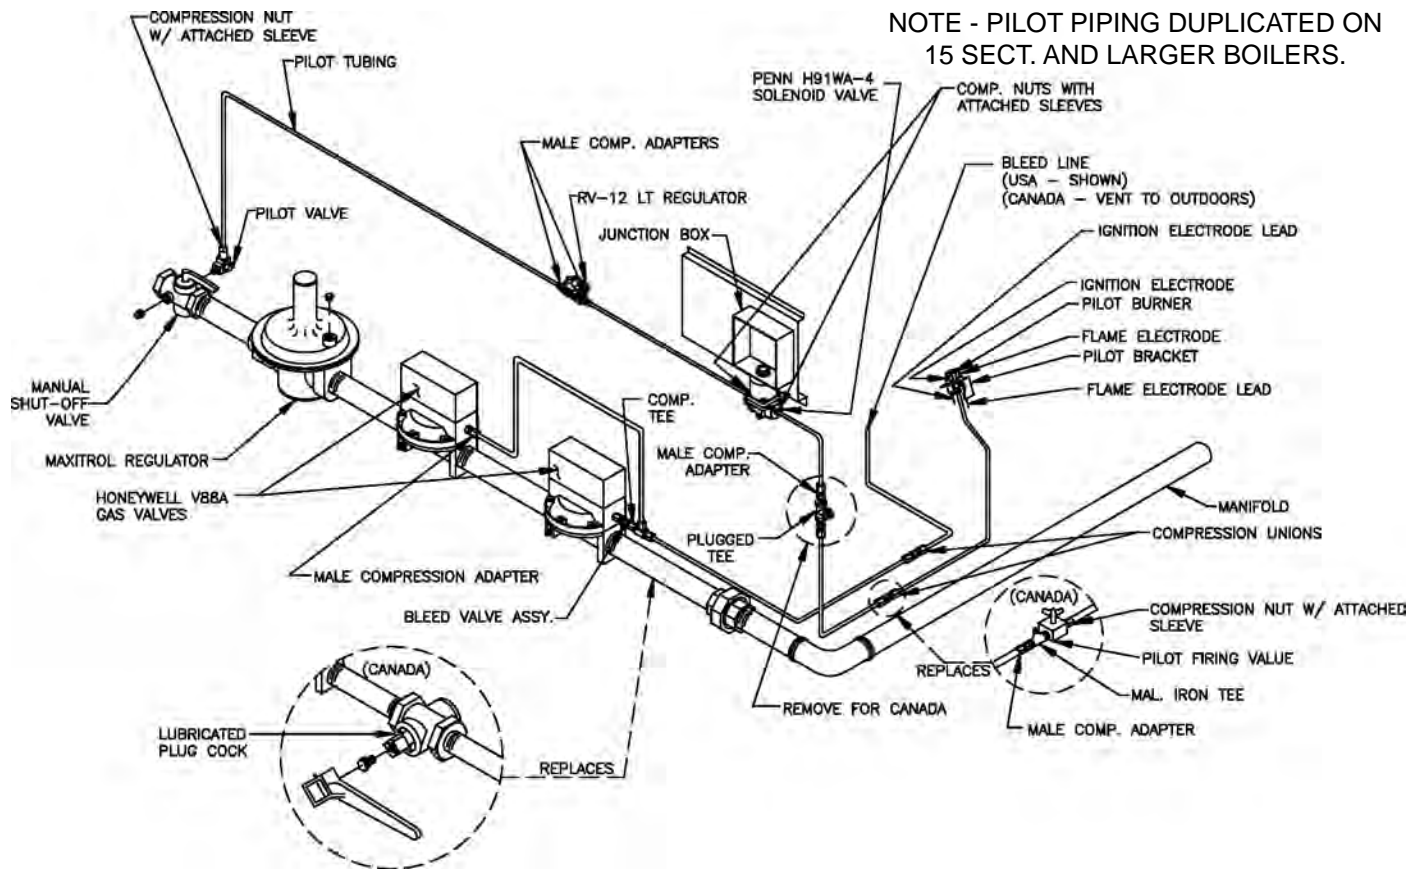

FIG. 34
2. INSTALLATION OF PILOT PIPING – Install the H91WA-4 pilot solenoid valve in the bottom center knockout of the J-box using conduit fittings furnished, see Fig. 34. Install RV-12LT regulator, (Packed in Gas Train Carton) and 1/8” tee in the ¼” OD pilot tubing as shown in Fig. 34.
3. **INSTALLATION OF BLEED PIPING** – Using ¼" OD aluminum tubing, install a bleed line on both diaphragm valves, connect together, see Fig. 25 or 26, and, on USA boilers, run tubing to bleed line protruding from inside base, see Fig. 34. On boilers installed in Canada, run bleed line to outdoors.
2. **INSTALLATION OF PILOT PIPING** – Install the H91WA-4pilot solenoid valve in the bottom center knockout of the J-box using conduit fittings furnished, see Fig. 34. Install RV-12LT regulator, (Packed in Gas Train Carton) and 1/8" tee in the ¼" OD pilot tubing as shown in Fig. 37.